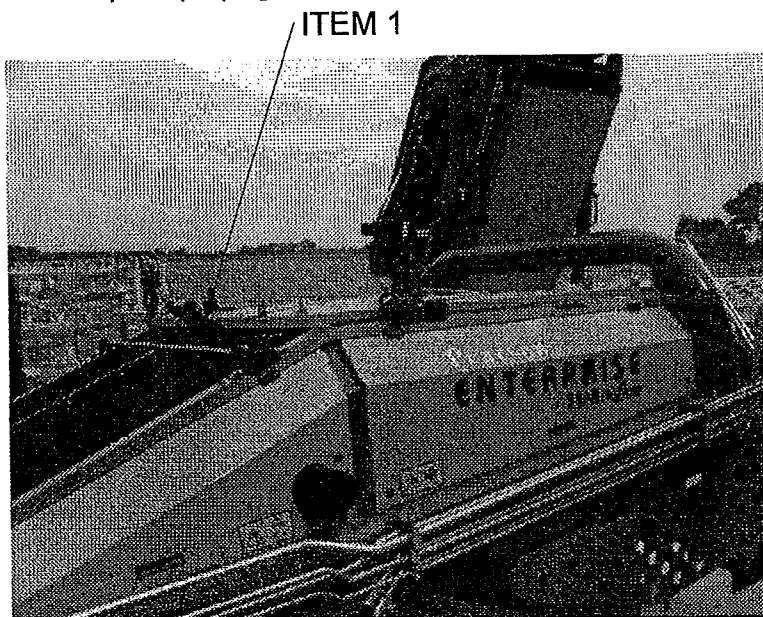
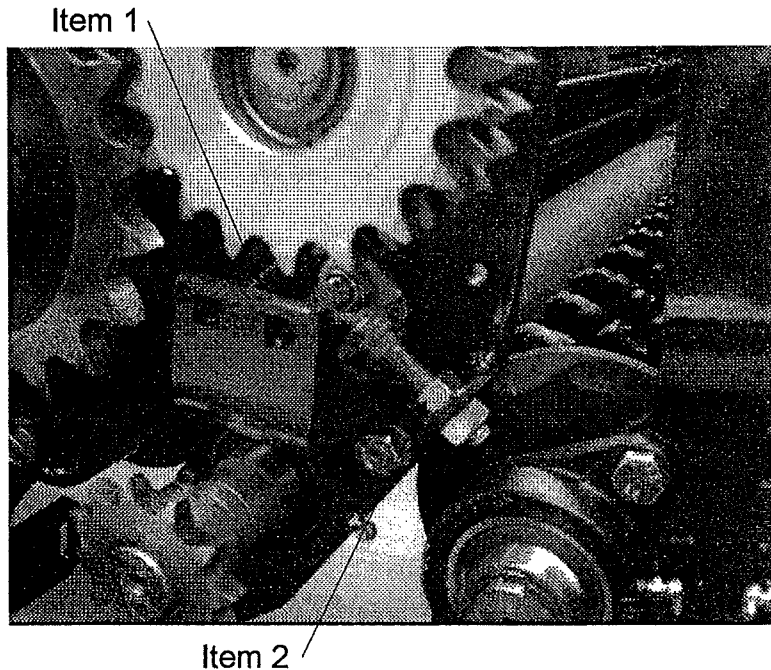

Fig 7.4
Fig 7.5
To adjust the gap between haulm roller and web, release the spring tension, which holds the roller to the web (Fig 7.4 item 1). Slacken the clamp bolts locking the bump stop. (Fig 7.5 item 1).
Adjust the set screw in or out to achieve the desired new position. (Fig 7.5 item 2). Repeat these operations for the opposite side of the machine, making sure that both ends of the roller are set to the same position, and maintaining the roller parallel to the web. When the necessary adjustments have been made, tighten all bolts and nuts on both sides of the roller.